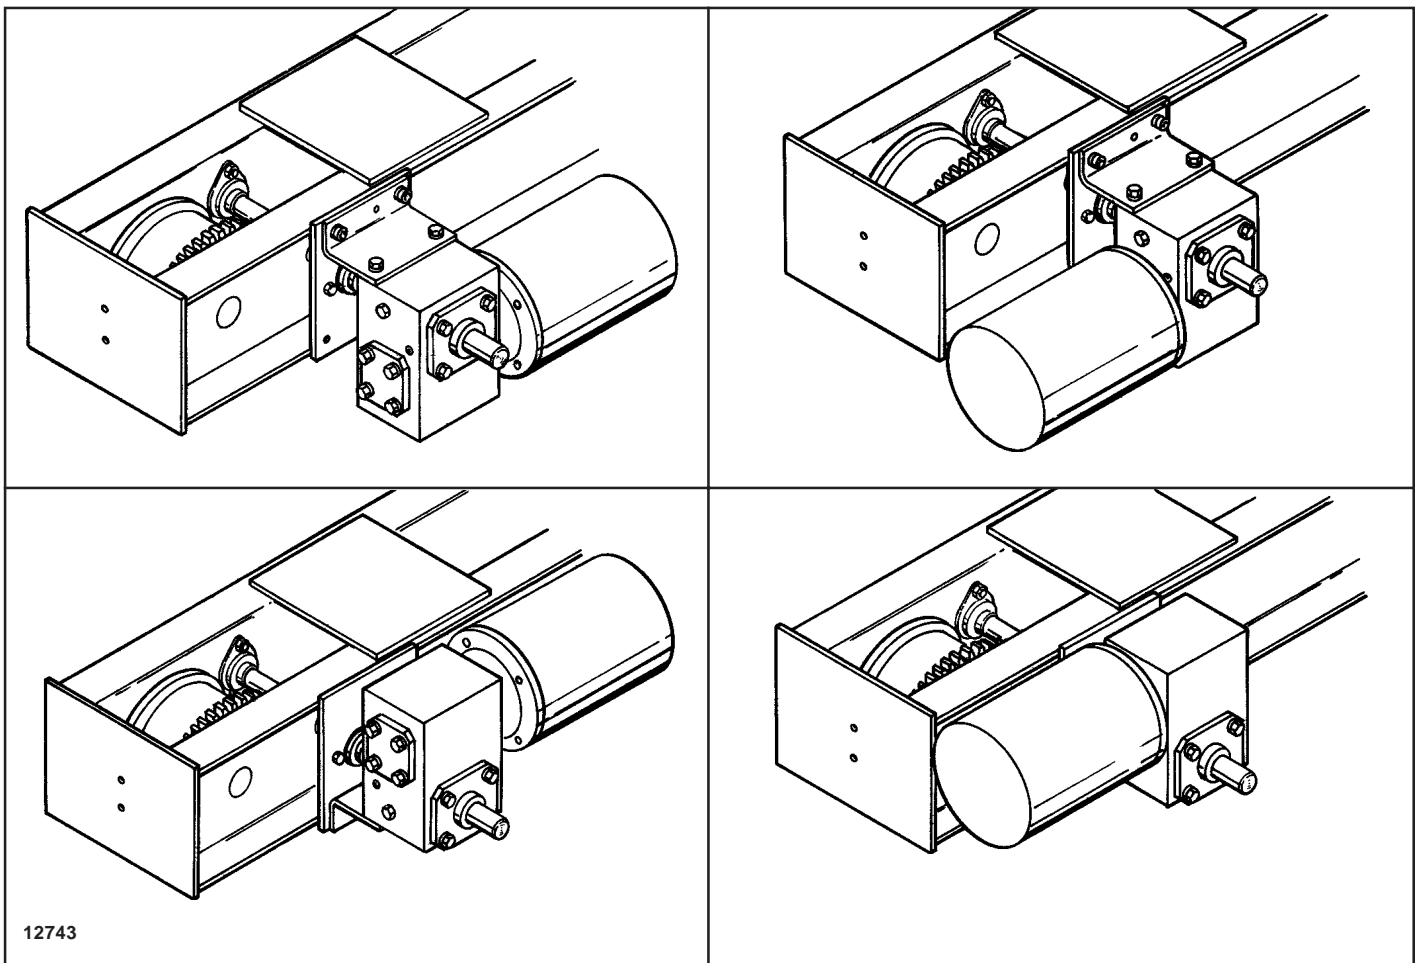

Figure 8.
4. Bolt the motor to the gear reducer with four hex head bolts and lockwashers and bolt the support plate to the gear reducer with two hex socket head cap screws and lockwashers. The drive may go on either end of the bridge. Optional motor-gear reducer locations are shown in Figure 8. The vent (Ref. No. 15 in Figure 16) must be placed in the highest location.